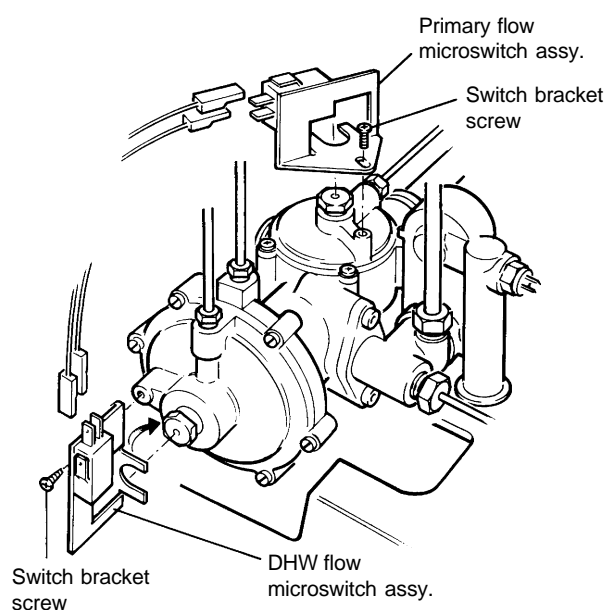

Fig. 31
8.24 DHW AND PRIMARY FLOW SWITCHES - Fig. 31
PRIMARY flow switch (back of diverter valve), red wires to terminals as shown in Fig. 31.
DHW flow switch (front of diverter valve), green wires to terminals as shown in Fig. 31.